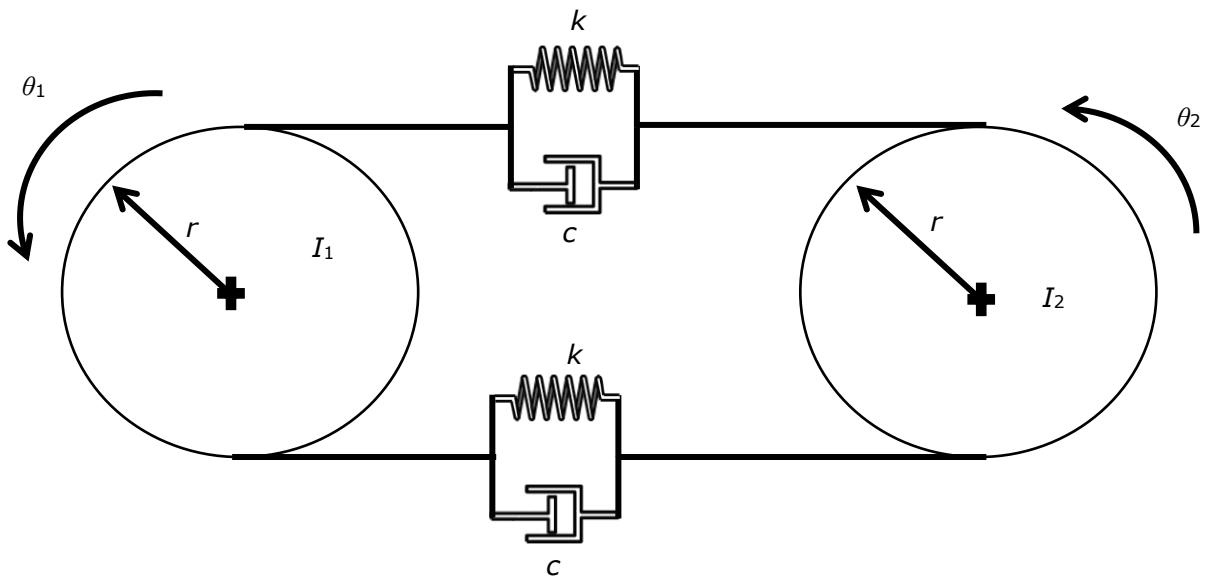

Figure Q4
4. A coupling is made between two rotational shafts that can be considered equivalent to the model shown in FIGURE Q4. Assume the shafts have mass moments of inertia I_1 and I_2 as shown, and have equal radii, r . The stiffness and damping elements in the couplings are equivalent to k and c respectively with:
- (a) Draw a fully annotated Free Body Diagram for each of the rotational elements in terms of their rotational displacements, θ_1 and θ_2 , for the positive directions of motion shown in Figure Q4. [6]